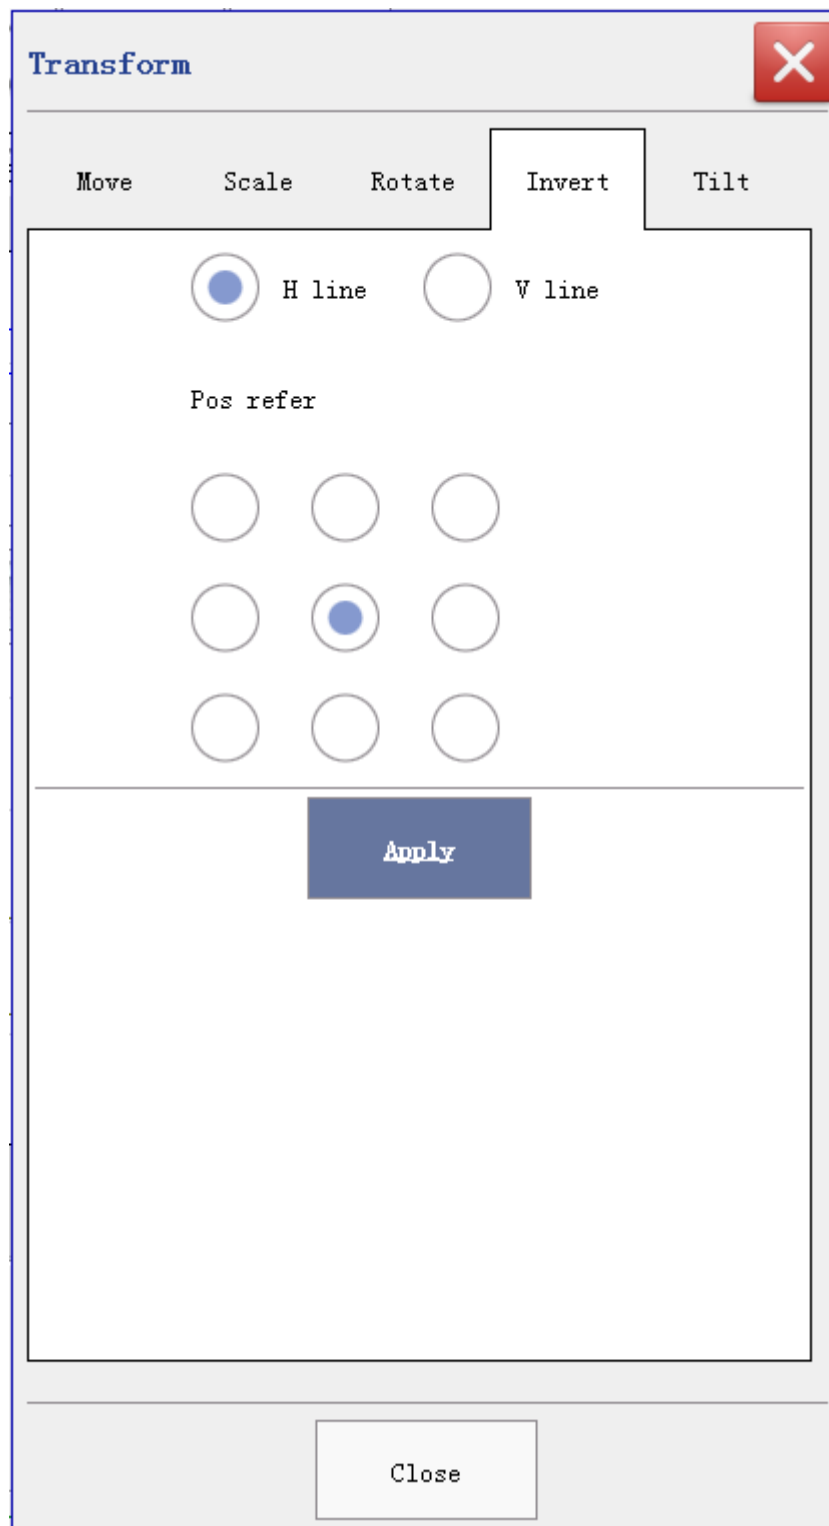

Figure 4-7 Invert
**Invert:** There are two mode of flip, Horizontal line or Vertical line .As shown in figure 4-7.